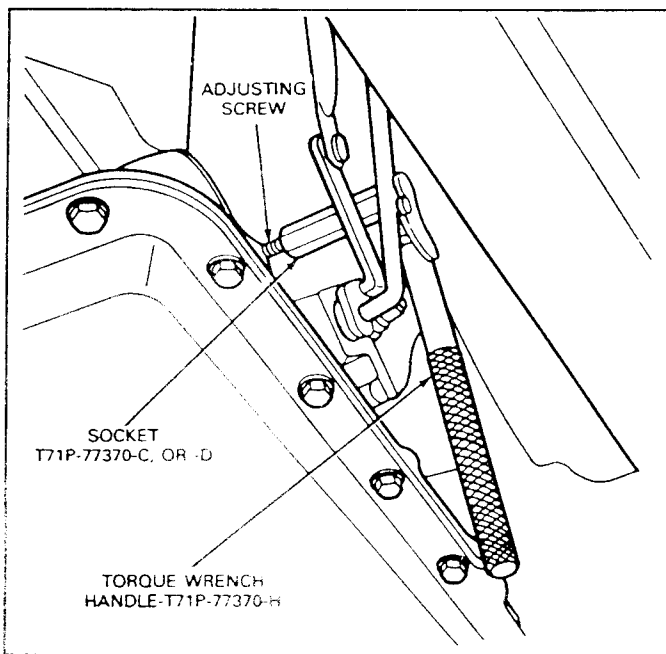

FIG. 5 Adjusting Intermediate Band
3. Install a new locknut and tighten the adjusting screw to 14 N·m (10 ft-lbs) torque (Fig. 5)